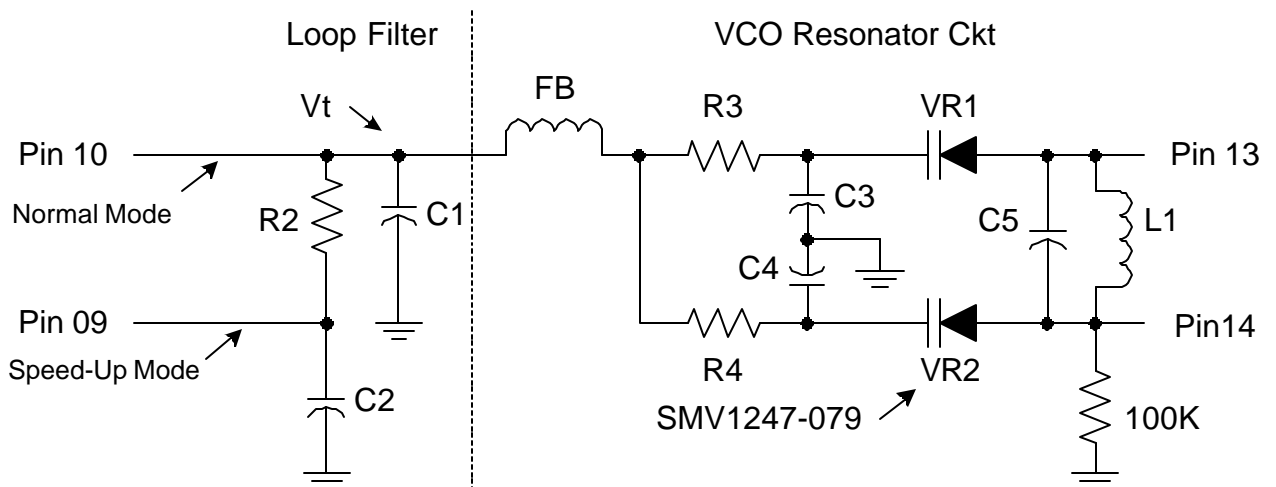

Figure 2.1
Shown in Figure 2.1 is a typical VCO circuit for a 915 MHz application. The 100K resistor helps to stabilize the VCO tuning voltage during long periods of operation. The 100K resistor can be added to either terminal 13 or 14. Depending on circuit board parasitic capacitance, adding the 100K resistor may or may not effect the VCO tuning range. The ferrite bead (FB) is used for noise reduction in applications where DC-DC converters or charge-pump regulators are used to supply power to the TRF6900A. Example part numbers for the ferrite bead are Steward ([www.steward.com](http://www.steward.com)), part number HZ0603C601R-00 (600 ohms @ 100 MHz), or Murata ([www.murata.com](http://www.murata.com)) BLM11B252SDPT (2500 ohms @ 100 MHz). Capacitor C5 is used to both lower and center the VCO tuning range. The placement of C5 allows adjustment of the VCO gain (Kv) or tuning range. This is useful for ultra-low phase noise applications where the VCO gain (or tuning range) needs to be reduced (a typical value for C5 would be in the range of 0.5 pF to 1.5 pF) for 900 MHz applications. For most applications, the selection of inductor L1 (provides coarse adjustment of the VCO operating point) is sufficient for centering the VCO operating frequency. Depending on the selected VCO topology, the fixed capacitors allow fine adjustment of the VCO center frequency. Ideally, for a VCO tuning from 0 to 3.3 volts, the VCO's tuning range would be adjusted to have the center frequency correspond to a tuning voltage of 1.5 volts.
Note: In order for the VCO circuit shown in Figure 2.1 to be stable and to ensure that the VCO does not have a start-up problem,  $X_C$  should be greater than  $X_L$ .  $X_C$  and  $X_L$  are the values of C3, C4, and L1 respectively at the minimum and maximum VCO tuning limits. Also note this condition changes depending on the topology of the VCO circuit being implemented. Table 2.1 shows an example of  $X_C$  and  $X_L$  values for a typical VCO circuit as drawn in Figure 2.1.
Which VCO circuit to use depends on the application, circuit board parasitic capacitance, and required tuning range. Typically, the VCO circuits shown in Figures 2.1 or 2.2 are recommended. A typical tuning range for the circuit in Figure 2.1 is 120 to 140 MHz. Note that for all VCO circuits shown, the tuning range is based on  $V_{CC}$  set at 3.3 volts.